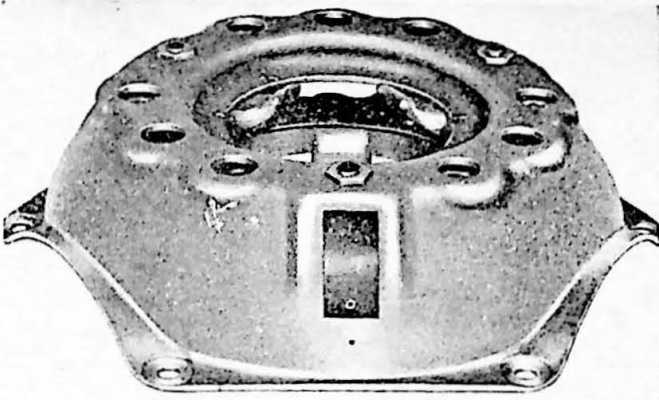

Fig. 2-5. Marking of clutch cover and pressure plate
1. Mark the clutch as shown in Fig. 2-5.
4. Place the six pressure springs (24) in position. (The springs should be arranged so that black ones and unpainted ones come alternately).
5. Ensure that the three springs (1, Fig. 2-10) for the clutch levers are in position and place the clutch cover casing (21) over the six pressure springs in the position previously marked, Fig. 2-5.
6. Place on the 3-point support, arms, thrust rods and wrench. Press down the clutch cover casing until it contacts the bottom plate all round. Place the adjusting nuts on the eyebolts (32) and screw them on to full nut width. The clutch is now ready for adjusting.